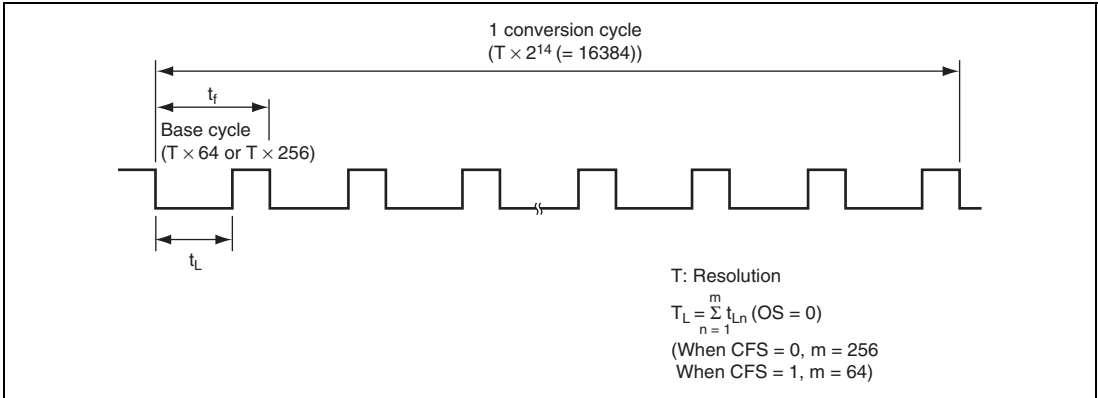

**Figure 9.3 PWMX (D/A) Operation**
A PWM waveform like the one shown in figure 9.3 is output from the PWMX pin. DA13 to DA0 in DADR corresponds to the total width ( $T_L$ ) of the low (0) pulses output in one conversion cycle (256 pulses when CFS = 0, 64 pulses when CFS = 1). When OS = 0, this waveform is directly output. When OS = 1, the output waveform is inverted, and DA13 to DA0 in DADR value corresponds to the total width ( $T_H$ ) of the high (1) output pulses. Figures 9.4 and 9.5 show the types of waveform output available.